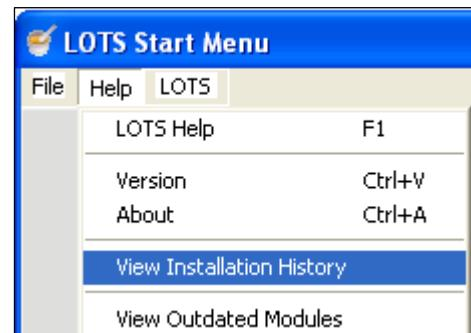

Figure 435
- The option in the LOTS Help menu called 'View Installation History' (Figure 435) displays a history of every installation performed on the Master and Slave PCs.